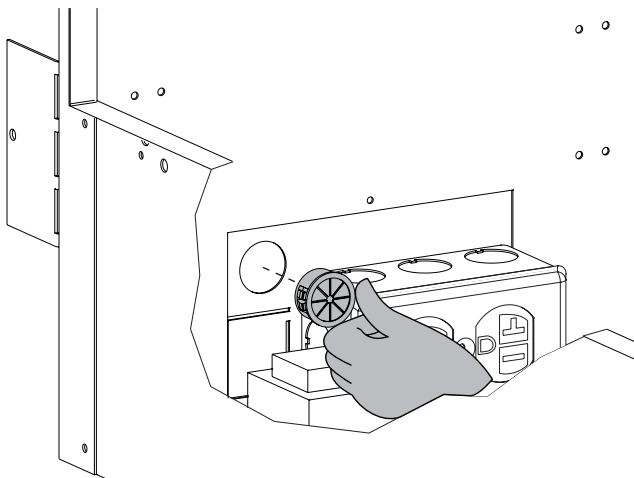
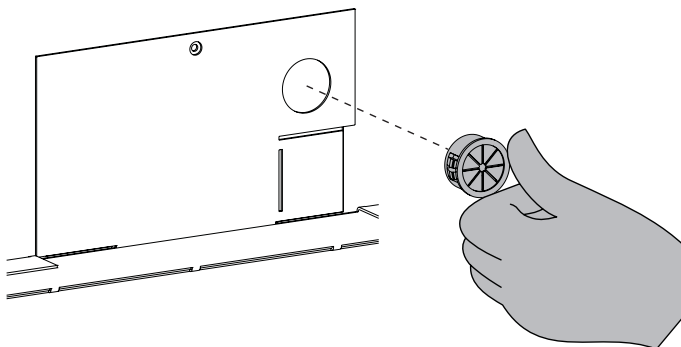

Figure 44
Figure 45
13. Install the provided plastic bushing in the opening where the wires exit the fireplace. **See Figure 44 (left side), or Figure 45 (right side).**